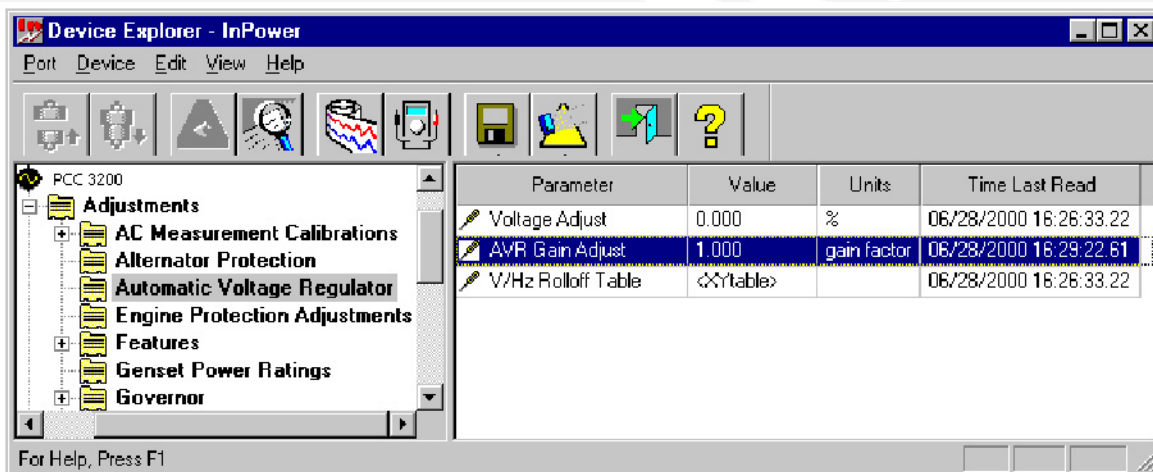

FIGURE 81. ADJUSTMENTS - AUTOMATIC VOLTAGE REGULATOR
**Example:** In this example (Figure 81), InPower is used to adjust the automatic voltage regulator to obtain the correct AVR gain setting.